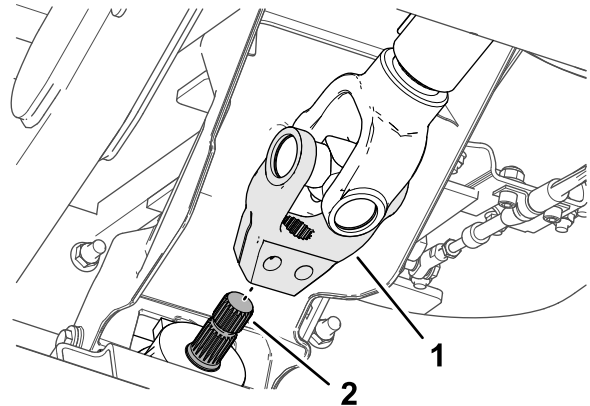

Figure 16
5. Align the splines in the driveshaft yoke onto the splines of the attachment input shaft (Figure 16), and slide the yoke over the shaft.